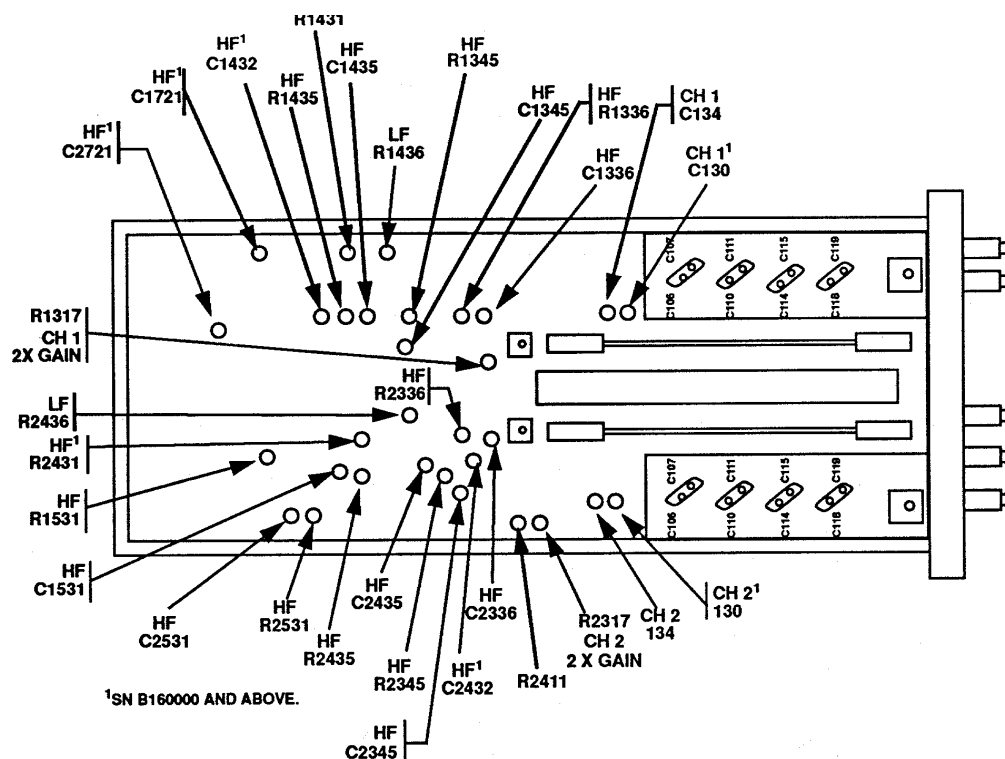

Figure 3. AM-6785/U and Tektronix, Type 7A26 - left side view.
(16) Connect oscilloscope calibrator **CHAN 1** to TI **CH 1** using a 50 Ω feedthrough termination. Ensure oscilloscope calibrator **CHAN 1** output is selected by using technique in step (1) above.
(17) Set **DISPLAY MODE** switch to **CH 1** and **CH 1 VOLTS/DIV** switch to **10 mV**.
(18) Set oscilloscope calibrator to **EDGE**, and output a 60 mV, 1 kHz output.
(19) Adjust **CH 1 POSITION** and time base controls as necessary to view display.
(20) Rotate oscilloscope calibrator knob located below **EDIT FIELD** pushbutton to obtain 6 divisions on oscilloscope display. If displayed waveform does not have flat tops, perform **b(13)** below (**CH 2, b(14)** below).
(21) Remove 50 Ω feedthrough termination from oscilloscope calibrator **CHAN 1** and **TI CH 1**. Reconnect oscilloscope calibrator **CHAN 1** to TI **CH 1** using a 5-80 pF standardizer. Rotate oscilloscope calibrator knob located below **EDIT FIELD** pushbutton to obtain 6 divisions of vertical display.
(22) Adjust standardizer for optimum square corner and flat top. If standardizer cannot be adjusted for optimum square wave, adjust **CH 1 C134** (fig. 3) (**CH 1 C130** (fig. 3) for **SN B160000** and above) to midrange and readjust standardizer for optimum square wave.
(1) Ensure oscilloscope calibrator output and TI **VOLTS/DIV** switch setting is set as indicated in first row of table 8.
(2) Adjust **CH 1 GAIN** (front panel) for 4 divisions of amplitude.
(3) Set **CH 1 VOLTS/DIV** switch to **10 mV** and oscilloscope calibrator output for 50 mV.
(4) Adjust R1317 CH 1 2X GAIN (fig. 3) for 5 divisions of amplitude (R).
(5) Ensure oscilloscope calibrator output and TI **VOLTS/DIV** switch setting is set as indicated in first row of table 9.
(6) Adjust **CH 2 GAIN** control (front panel) for 4 divisions of amplitude.
(7) Set **CH 2 AC-GND-DC** switch to **AC**.
(8) Adjust R2411 (fig. 3) polarity gain for minimum gain change while switching **CH 2 POLARITY** switch between **+UP** and **INVERT**.
(9) Set **CH 2 AC-GND-DC** switch to **DC** and repeat (6) through (8) above until no further adjustments are needed.
(10) Set **CH 2 AC-GND-DC** switch **DC** and **VOLTS/DIV** switch to **10 mV**.
(11) Set oscilloscope calibrator output controls for 50 mV at 1 kHz.
(12) Adjust R2317 CH 2 2X GAIN (fig. 3) for **5** divisions of amplitude (R).
(13) Adjust LF R1436 and R1431 (LF R1436 for SN 159999 and below) (fig. 3) for best flat top (minimum tilt) (R).
(14) Adjust LF R2436 and HF R2431 (LF R2436 for SN 159999 and below) (fig. 3) for best flat top (minimum tilt) (R).
(1) Adjust HF C1336, HF R1336, HF C1432, HF C1435, HF R1435, HF C1531, HF R1531, HF C1345, and HF R1345 (fig. 3) for optimum front corner and flat top (R).
(2) Adjust HF C2336, HF R2336, HF C2432, HF C2435, HF R2435, HF C2531, HF R2531, HF C2345, and HF R2345 (fig. 3) for optimum front corner and flat top (R).